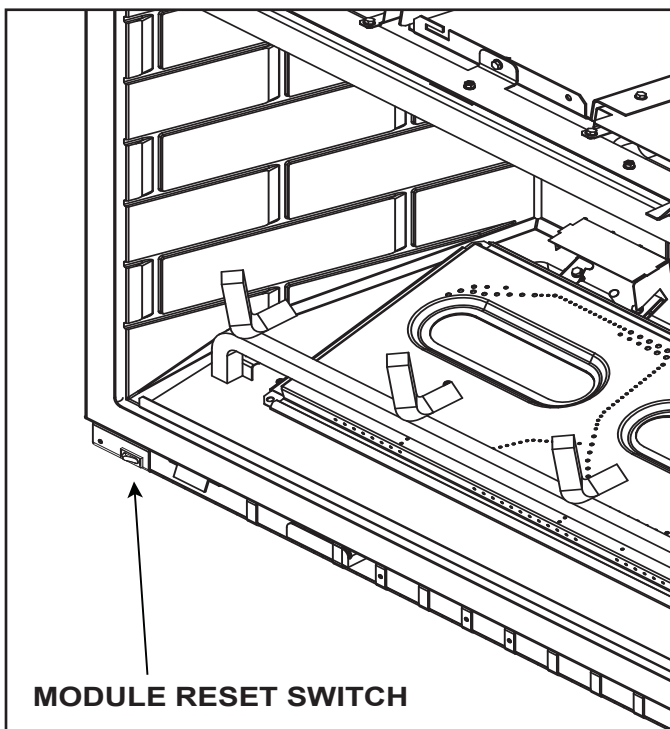

Figure 2.7. Module Reset Switch
- Locate the module reset switch. (See Figure 2.7).
- Wait five (5) minutes to allow possible accumulated gas to clear.